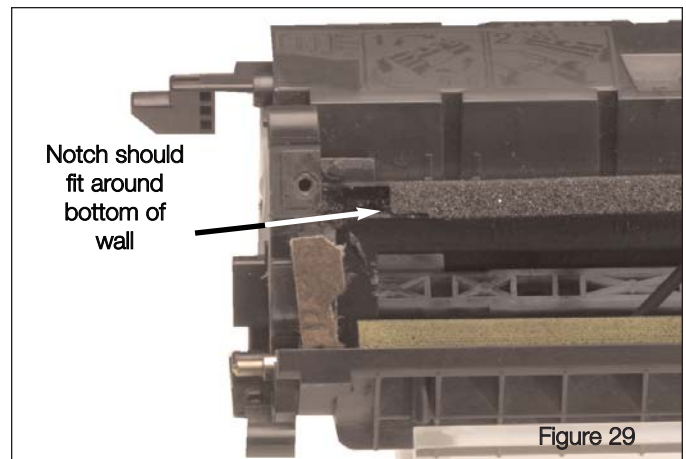

Figure 29
- e. Center the sealing foam over the cartridge, and align the edge of the Doctor Blade Sealing Foam with the top ledge of the toner port opening. See Figure 29.